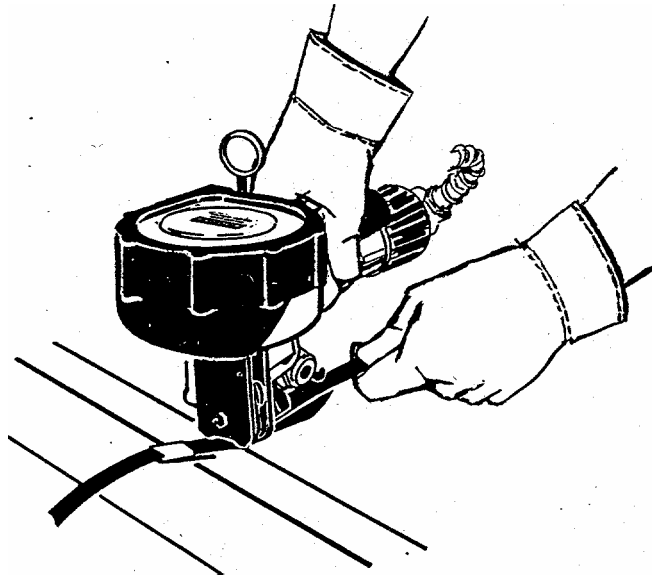

Figure 2
2. Grasp tool with thumb over the handle, fingers over motor and "on-off" valve collar. Squeeze handle and motor together and place tool on the strap. While still holding handle and motor together, slide the tool until the foot contacts the seal, removing as much slack by hand as possible. The seal will then be located under the sealer jaws and touching the nose portion of breaker foot. (See figure 2)